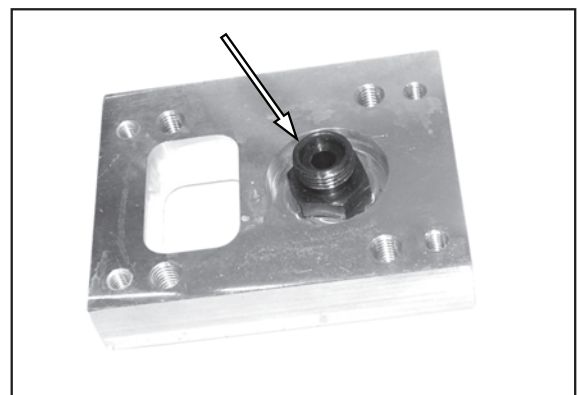

Figure 65.
2. See Figure 65. Remove the connector valve.